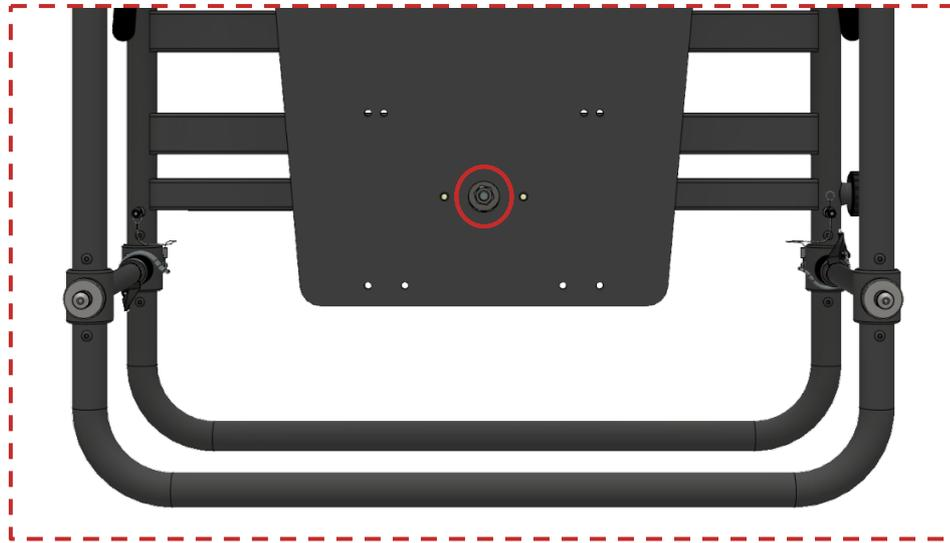

Figure 27 Nut on centre top side which is sealed with red colour wax
- On the three screws + nuts presented on the above two pictures (Figure 26 and Figure 27) red color sealing wax was applied to be sure that the nuts will always be on the same position and no one will try to tighten or loose them.
Except for the three nuts described on the previous section (see Figure 26 and Figure 27), please control, with corresponding tool, that all the other screws are properly tightened.